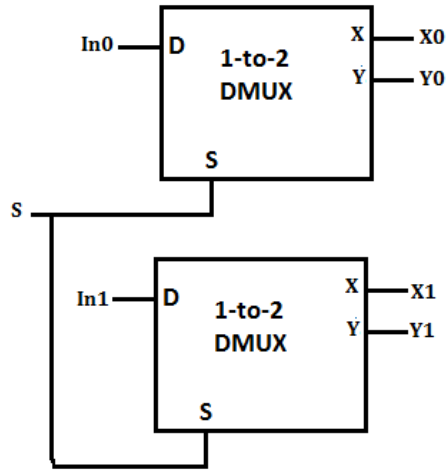

Figure 5. 1-to-2Dual DMUX
- d) Implement the **1-to-2 dual DMUX** using Verilog code **structurally** in a module named *dualdmux* inside the “*dualdmux.v*” file by instantiating two instances from the module *dmux1* according to Figure 5. This module should have 3 inputs (In1, In0, and S) and 4 outputs (Y1, Y0, X1, and X0).